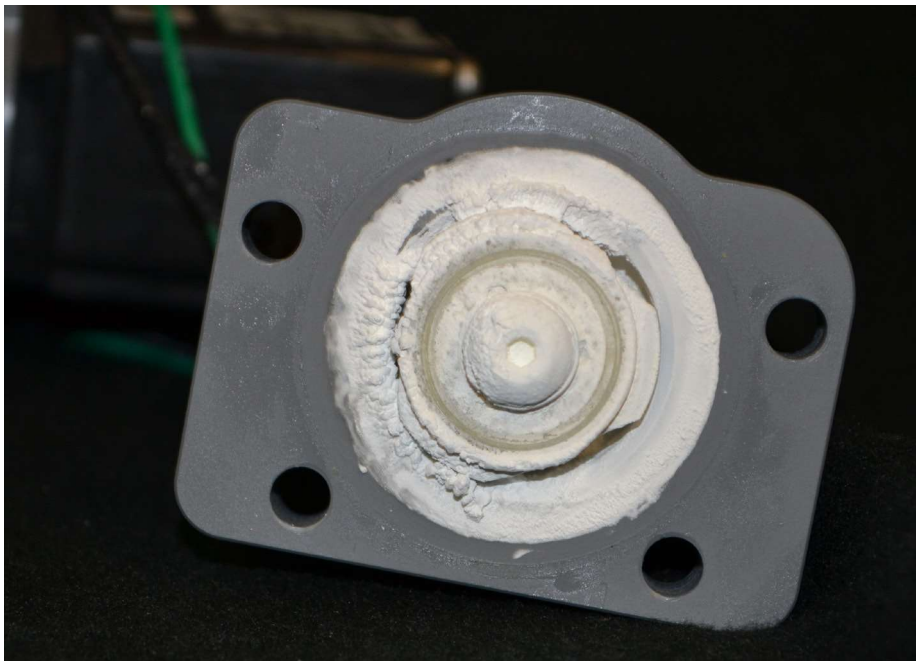

Figure 1: AER component damaged by poor-quality water
**Processing Equipment** – Components may become damaged by poor-quality water, and the overall function of the machine can be affected, causing malfunction and increasing repair costs. Items processed in poorly functioning equipment also poses a patient-safety risks (see **Figure 1**)